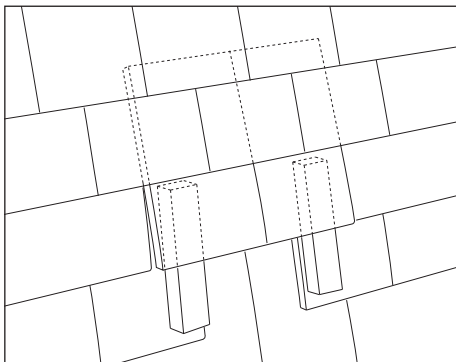

Fig. 45 – Block tiles with battens
- 1 Remove damaged tile by raising up the neighbouring tiles with a timber wedge and sliding the tile out with the nibs clearing the top of the batten. Any nails should be removed and disposed of safely (Fig. 45).